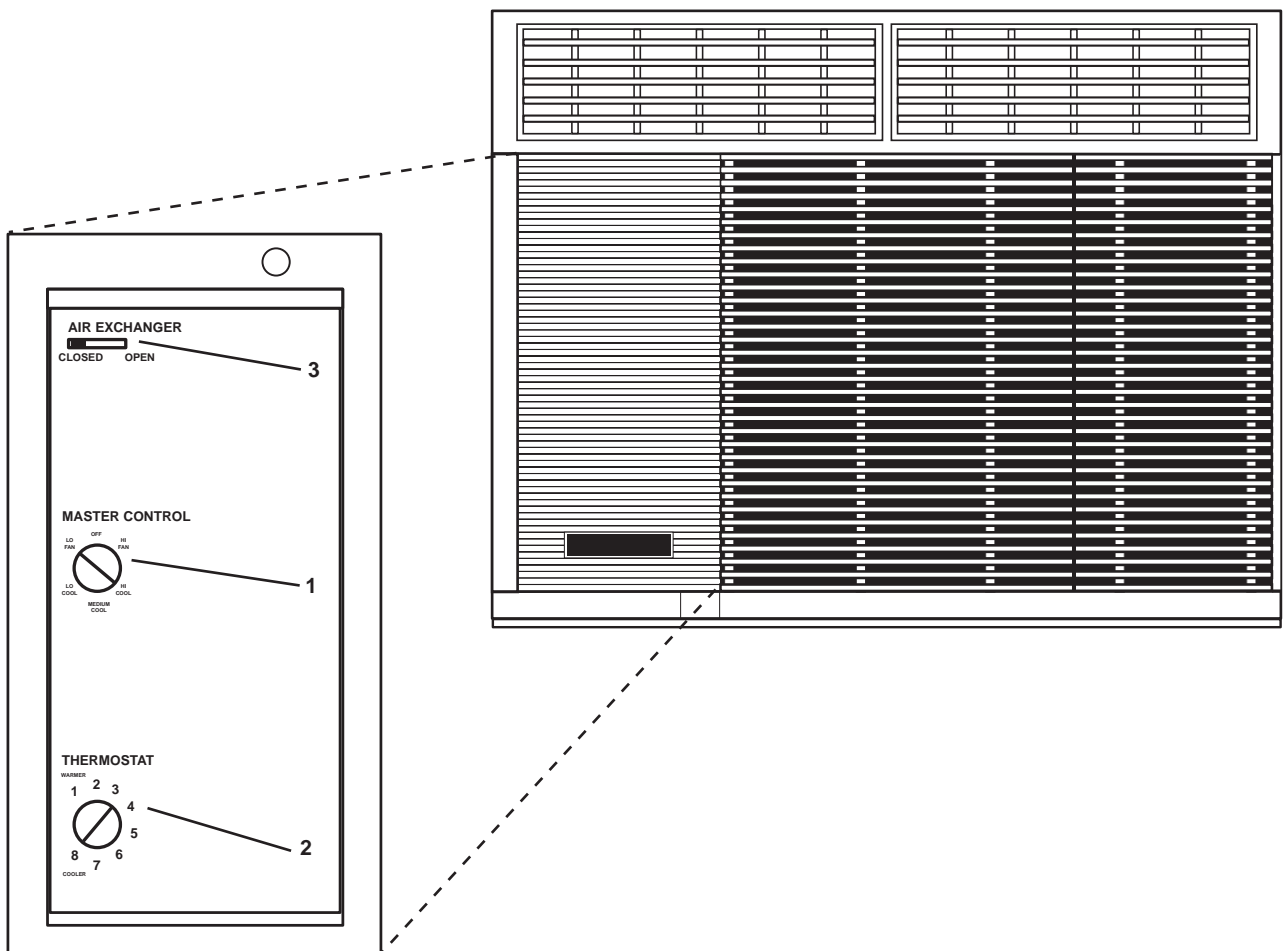

Figure 17. EOS Marine Air Conditioning Unit
- a. MASTER CONTROL switch (figure 17, item 1) to the desired position.
- b. THERMOSTAT (figure 17, item 2) to the desired temperature setting.
- c. AIR EXCHANGER control (figure 17, item 3) to the desired setting.